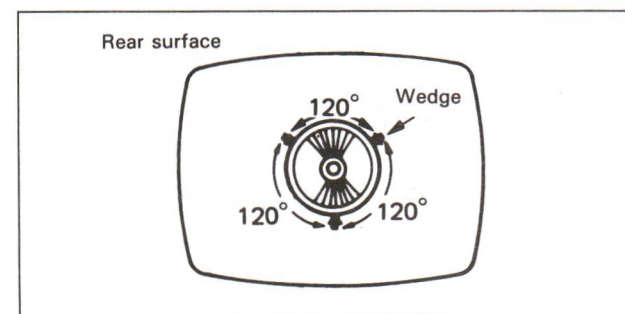

Fig. 6
4. Repeating 2 and 3, fix the position of the deflecting yoke with 3 wedges so as to produce the best condition for the convergence of points L, R, T and B, on the screen. Removable paper of the double-sided adhesive tape on the wedges should be removed first, and as Fig. 6 shows, the first wedge should be fixed directly below the deflecting yoke with the other two 120 degrees away from the first one on the deflecting yoke, using double-sided adhesive tape after they are firmly inserted into position.